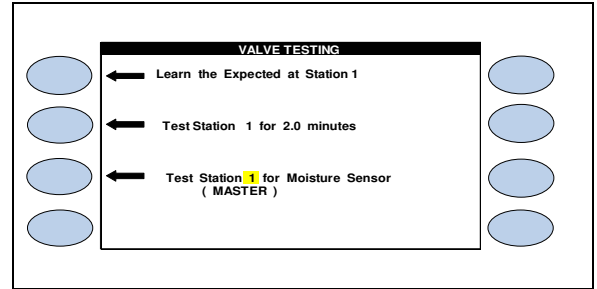

Figure 16
21.  Press the Blue **ARROW** keys to move the cursor to the **TEST STATION # FOR MOISTURE SENSOR** Entry (Figure 16).